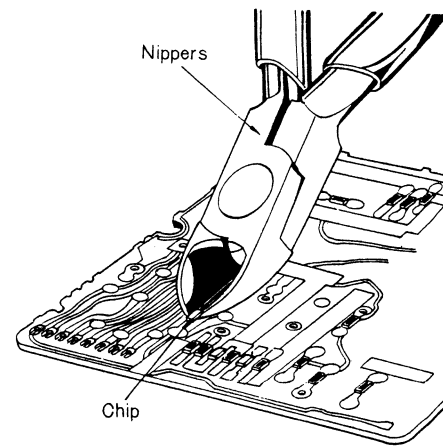

Fig. 29
- 2. Remove chip by nippers, as shown in fig. 29.